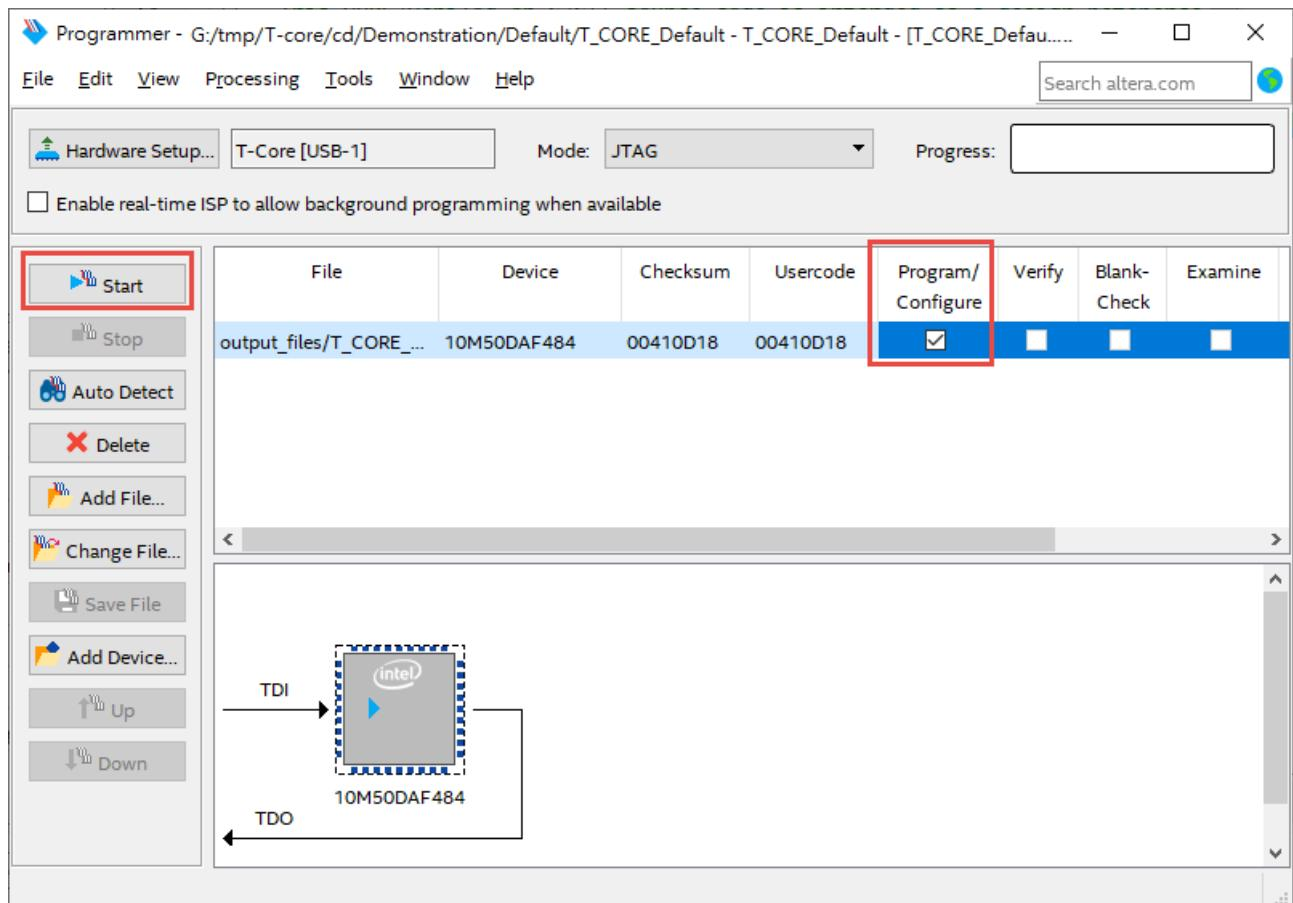

Figure 2-10 Program .sof file into the FPGA device
- Click “Program/Configure” check box and then click “Start” button to download the .sof file into the FPGA device, as shown in **Figure 2-10**.